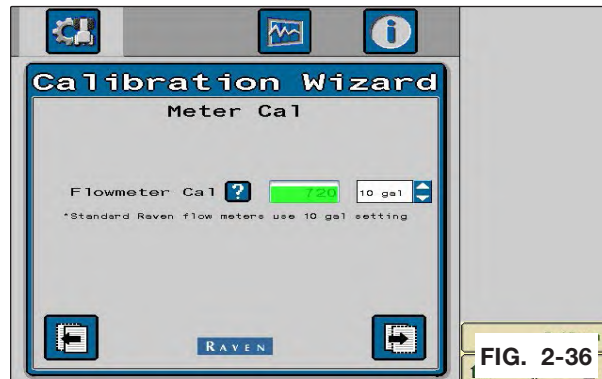

FIG. 2-36
5. Enter the meter cal (FIG. 2-36). Meter cal is found on the tag on the flow meter. Click next.